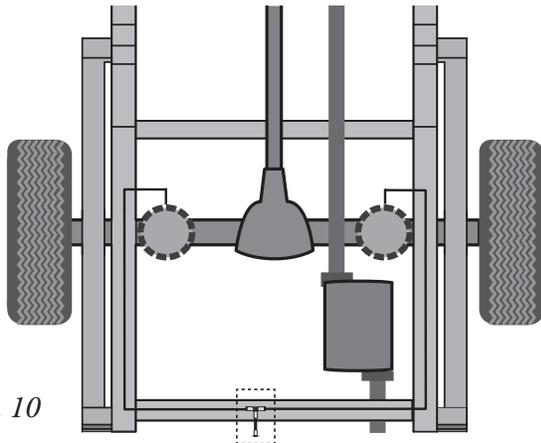
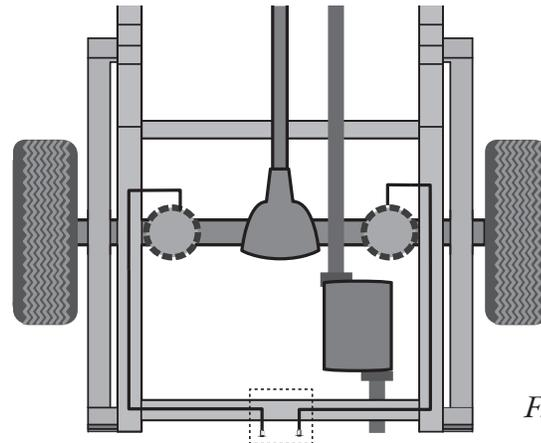

Fig. 10
Fig. 11
1. A single-path air line installation is recommended for vehicles that typically have even weight distribution (Fig. 10). If weight in the vehicle varies from side to side and unequal pressures are needed to level the load, use a dual-path installation. For dual-path air line installations, eliminate the tee fitting (I) and route separate air lines for both air springs (Fig. 11).